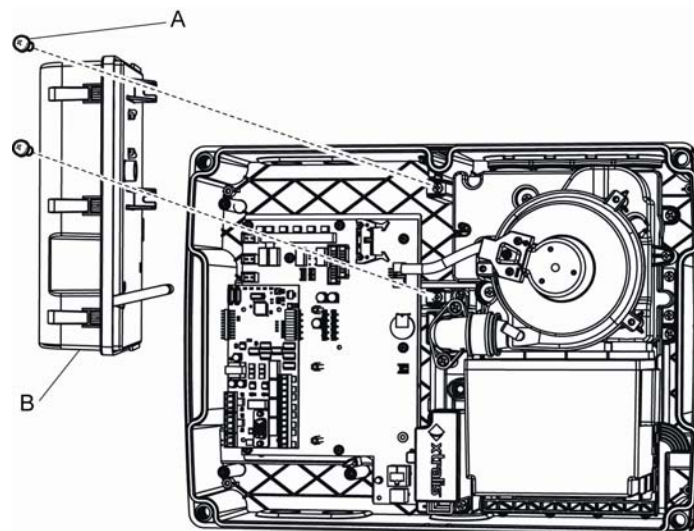

Figure 7-7: Chamber Assembly Replacement - Chamber Assembly
5. Remove the two chamber assembly screws (Figure 7-7: A).
7. Remove the chamber assembly (Figure 7-7: B).